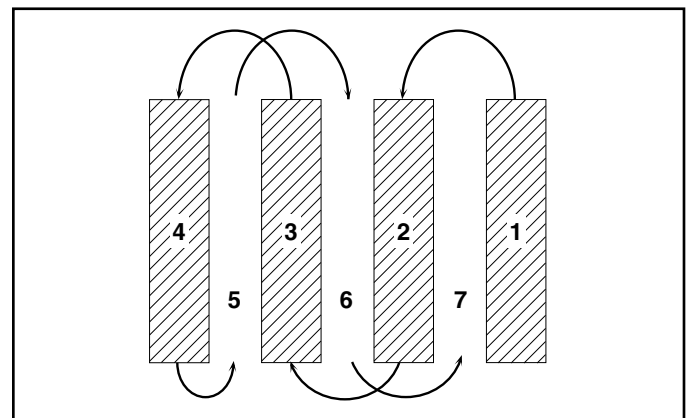

FIG. 14
- You will find tilling much easier if you leave a row untilled between passes. Then go back between tilled rows. (See Fig. 14) There are two reasons for doing this. First, wide turns are much easier to negotiate than about-faces. Second, the tiller won't be pulling itself, and you, toward the row next to it.